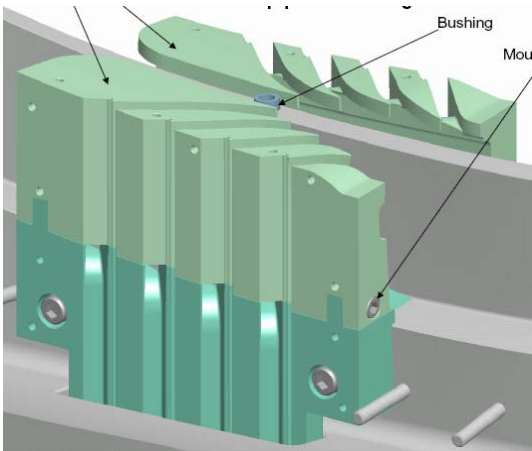

Figure 12-Upper Lead Blocks & Bushing
- Loosely mount the lower lead blocks with 1/2" socket head bolts with 2 special washers that fit in the counter bored holes. Tilt the lower lead blocks backward away from the tee and slip (2) "shim" washers onto the 1/2" bolts that will screw into the bosses. [4/block, 8 total] Carefully tilt the lower blocks up straight and push against the bosses. Leave the bolts loose not tight.
- Attach the upper lead blocks on each side and position them so the upper and lower block faces are flush and the triangular insert grooves are aligned. Insert a temporary filler strip into the 4 grooves and tighten the 3/8" socket head bolts into each end to secure the upper and lower blocks as a single unit. [Figure 12-Upper Lead Blocks & Bushing]